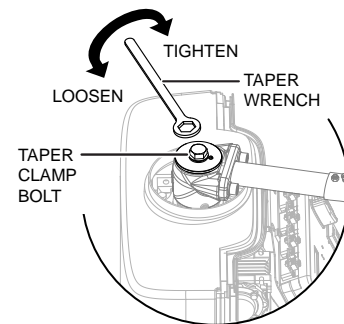

Figure 2. Taper Bolt and Taper Wrench
3. Loosen the taper clamp (Figure 2).